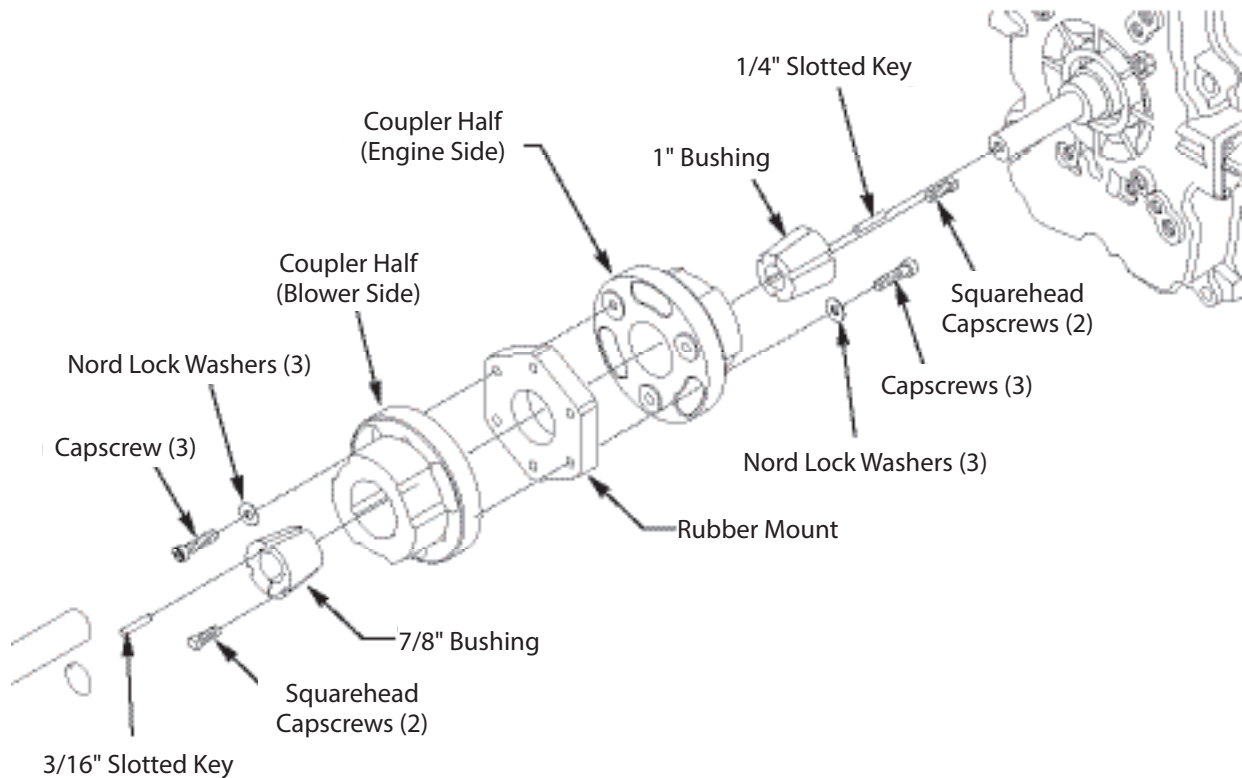

Figure 18 - Coupling Assembly
4. To remove coupling halves. Remove the 6 capscrews with nord lock washers (3 on the blower side, 3 on engine side). Then remove the 4 squarehead capscrews located on the bushings, inside the coupler halves. (2 on the blower side, 2 on engine side). Take 1 squaredhead capscrew and tighten in the center hole of both the blower and engine bushing. Break loose from the shaft. Reference Figure 18.